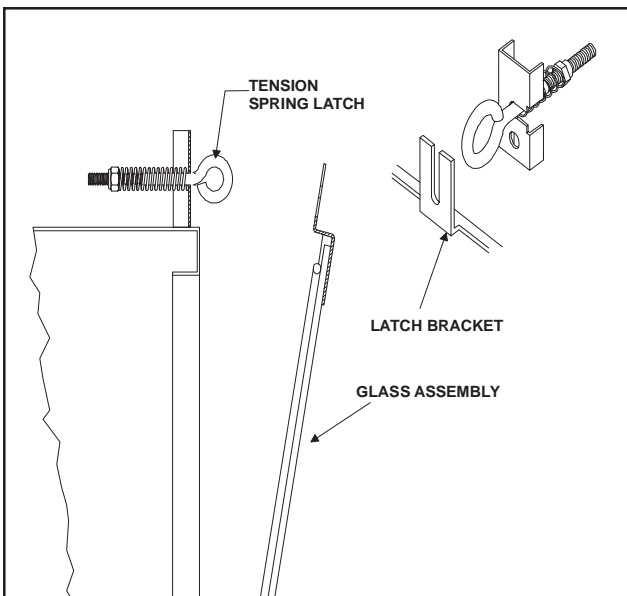

FIGURE 30
- Noting carefully how the brackets fit on the glass, remove wing nuts and brackets from the glass door. Release the three spring latches at the top of the glass door. Carefully lift the glass up and out away from the appliance. See Figure 30.